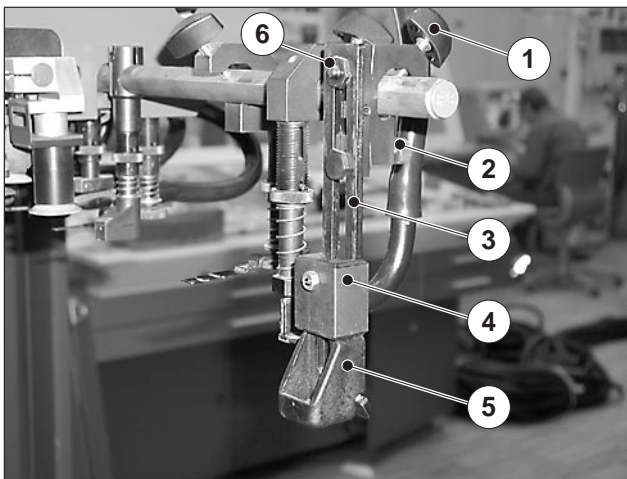

Fig. 37 Pile stop
- Locking screw for sheet size adjustment (Fig. 37/1)
- Locking screw – swiveling the pile stop (Fig. 37/2)
- Stop plate of rear edge of pile (Fig. 37/3)
- Steel sheet steadier (Fig. 37/4)
- Plastic sheet steadier (Fig. 37/5)
- Thrust piece for arresting the steel sheet steadier (Fig. 37/6)